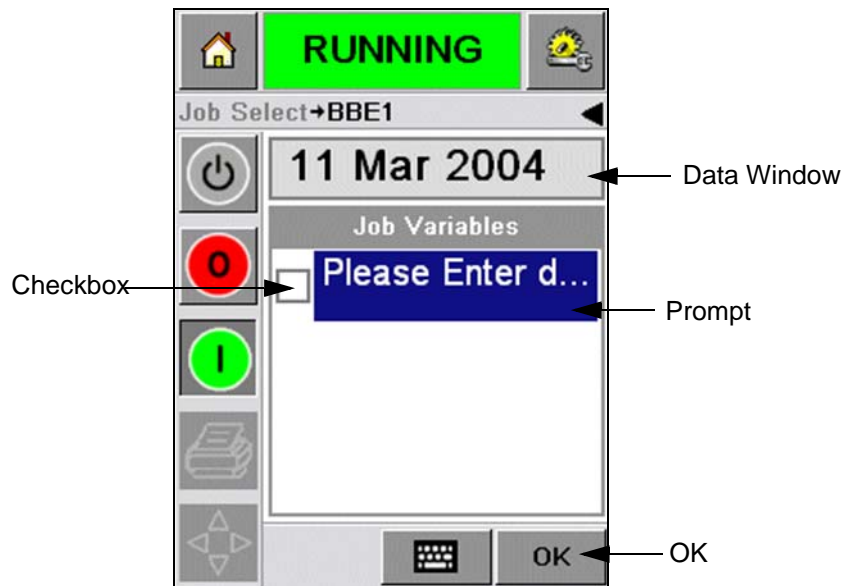

Figure 5-7: Job Variables
The check box at the side of variable fields indicates the fields that are entered and fields that are not entered (Figure 5-7 on page 5-6).
To select the Job variable you require to change, touch the related prompt. This variable gets highlighted and display the default data in the data window (Figure 5-7 on page 5-6).
The Figure 5-7 shows the Job Variables for the job **BBE1** and there is a DATE field variable only (for use as a Best Before End Date).
- 1 If the default date displayed in the data window (11 March 2004) is correct, touch the *OK* icon and this date is printed (Figure 5-7).